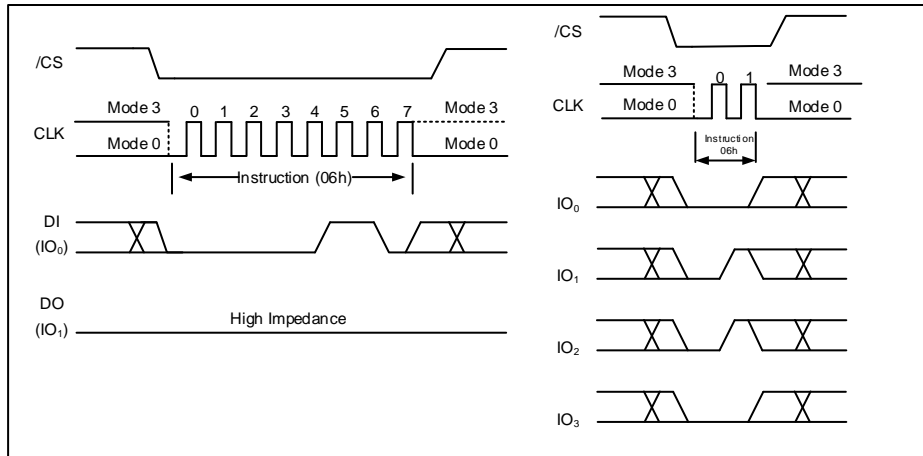

Figure 5. Write Enable Instruction for SPI Mode (left) or QPI Mode (right)
Instructions vary in length from a single byte to several bytes and may be followed by address bytes, data bytes, dummy bytes (don't care), and in some cases, a combination. Instructions are completed with the rising edge of edge /CS. Clock relative timing diagrams for each instruction are included in Figures 5 through 44. All read instructions can be completed after any clocked bit. However, all instructions that Write, Program or Erase must complete on a byte boundary (/CS driven high after a full 8-bits have been clocked) otherwise the instruction will be ignored. This feature further protects the device from inadvertent writes. Additionally, while the memory is being programmed or erased, or when the Status Register is being written, all instructions except for Read Status Register will be ignored until the program or erase cycle has completed.
The Write Enable instruction (Figure 5) sets the Write Enable Latch (WEL) bit in the Status Register to a 1. The WEL bit must be set prior to every Page Program, Quad Page Program, Sector Erase, Block Erase, Chip Erase, Write Status Register and Erase/Program Security Registers instruction. The Write Enable instruction is entered by driving /CS low, shifting the instruction code “06h” into the Data Input (DI) pin on the rising edge of CLK, and then driving /CS high.